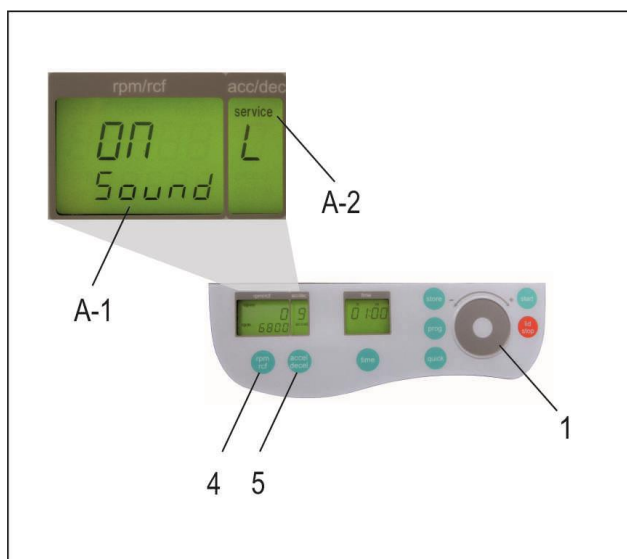

Figure 3
- All changed settings must be confirmed by the key, "start" (9). A confirmation screen will appear with the word, "store", in the display "rpm/rcf" (A-1) - Only then the pre-selections are valid!
Proceed as illustrated, under point 1.8.2, to enter this program mode, press the key; "accel/decel" (5). In the display, "accel/decel" (A-2) flashes the word, "service". Select the letter, "L" with the control field (1). As a result, appearing in the display "rpm/rcf" (4), are the words, "On Sound". By pressing the key, "rpm/rcf" (4), the word "On" flashes, and the sound can be switched off with the control field (1), (see Figure 3).